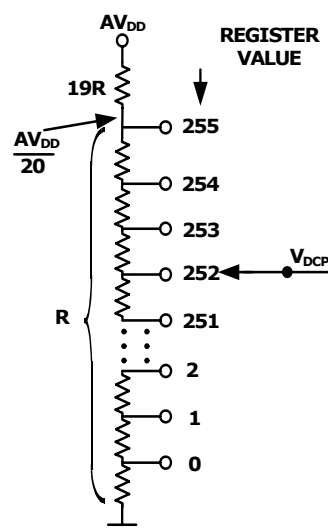
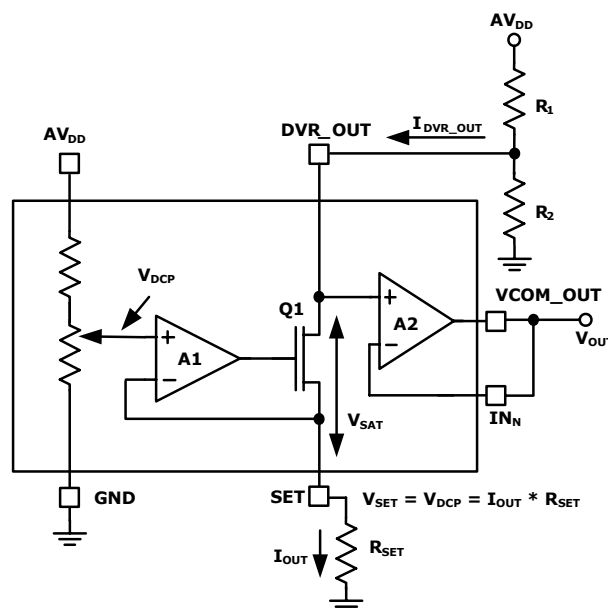

FIGURE 4. SIMPLIFIED SCHEMATIC OF DCP
FIGURE 5. CURRENT SINK CIRCUIT
**Electrical Specifications** Test Conditions: VDD = 3.3V, AVDD = 18V, RSET = 5k $\Omega$ , R1 = 10k $\Omega$ , R2 = 10k $\Omega$ , (See Figure 5), VCOM\_OUT pin connected to INN, unless otherwise specified. Typicals are at TA = +25°C. **Boldface limits apply over the operating temperature range, -40°C to +85°C.**
**Electrical Specifications** Test Conditions:  $V_{DD} = 3.3V$ ,  $AV_{DD} = 18V$ ,  $R_{SET} = 5k\Omega$ ,  $R_1 = 10k\Omega$ ,  $R_2 = 10k\Omega$ , (See Figure 5), VCOM\_OUT pin connected to INN, unless otherwise specified. Typical values are at  $T_A = +25^\circ C$ . **Boldface limits apply over the operating temperature range, -40°C to +85°C. (Continued)**
The ISL24212 uses a digitally controllable potentiometer (DCP), with 256 steps of resolution (see Figure 4) to change the current drawn at the DVR\_OUT pin, which then changes the voltage created by the  $R_1 - R_2$  resistor divider (see Figure 5). The DVR\_OUT voltage is then buffered by A2 to generate a buffered output voltage at the  $V_{COM\_OUT}$  pin, capable of directly driving the  $V_{COM}$  input of an LCD panel. The amount of current sunk is controlled by the setting of the DCP, which is recalled at power-up from the ISL24212's internal EEPROM. The EEPROM is typically programmed during panel manufacture. As noted in the "Electrical Specifications" on page 4, the ISL24212 requires a minimum  $AV_{DD}$  voltage of 10.8V for EEPROM programming, but will work in normal operation down to 4.5V after the EEPROM has been programmed, with no additional EEPROM writing.
The DCP controls the voltage that ultimately controls the SET current. Figure 4 shows the relationship between the register value and the DCP's tap position. Note that a register value of 0 selects the first step of the resistor string. The output voltage of the DCP is given in Equation 1:
Figure 5 shows the schematic of the DVR\_OUT current sink. The combination of amplifier A1, transistor Q1, and resistor  $R_{SET}$  forms a voltage-controlled current source, with the voltage determined by the DCP setting.
With amplifier A2 in the unity-gain configuration ( $V_{COM\_OUT}$  tied to  $IN_N$  as shown in Figure 5),  $V_{DVR\_OUT} = V_{COM\_OUT} = V_{COM}$ .